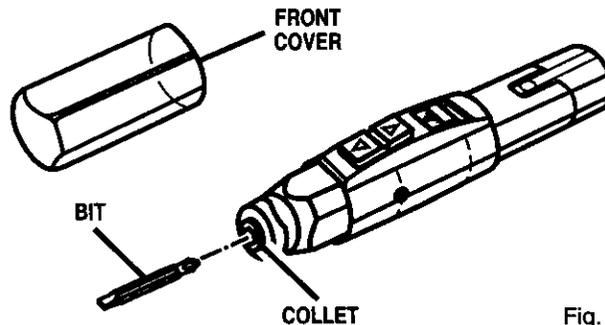

Fig. 5
See Figure 5.
- Remove front cover from mini driver. *See Figure 5.*